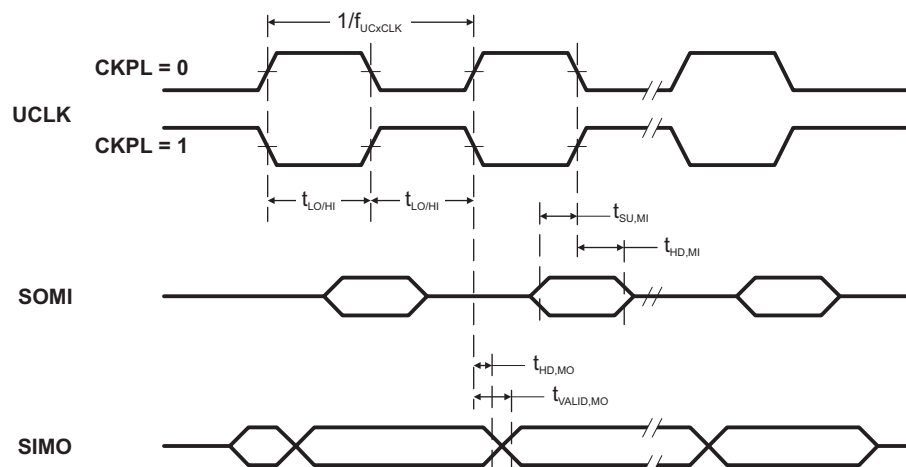
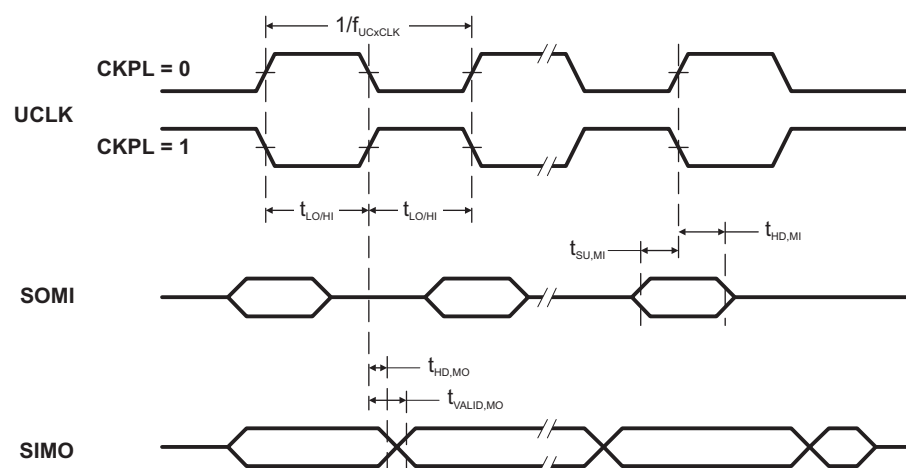

Figure 15. SPI Master Mode, CKPH = 0
Figure 16. SPI Master Mode, CKPH = 1
(see Note ⁽¹⁾, Figure 15 and Figure 16)
- (2) Specifies the time to drive the next valid data to the SIMO output after the output changing UCLK clock edge. See the timing diagrams in Figure 15 and Figure 16.
- (3) Specifies how long data on the SIMO output is valid after the output changing UCLK clock edge. Negative values indicate that the data on the SIMO output can become invalid before the output changing clock edge observed on UCLK. See the timing diagrams in Figure 15 and Figure 16.
(2) Specifies the time to drive the next valid data to the SOMI output after the output changing UCLK clock edge. See the timing diagrams in Figure 15 and Figure 16.
(3) Specifies how long data on the SOMI output is valid after the output changing UCLK clock edge. See the timing diagrams in Figure 15 and Figure 16.